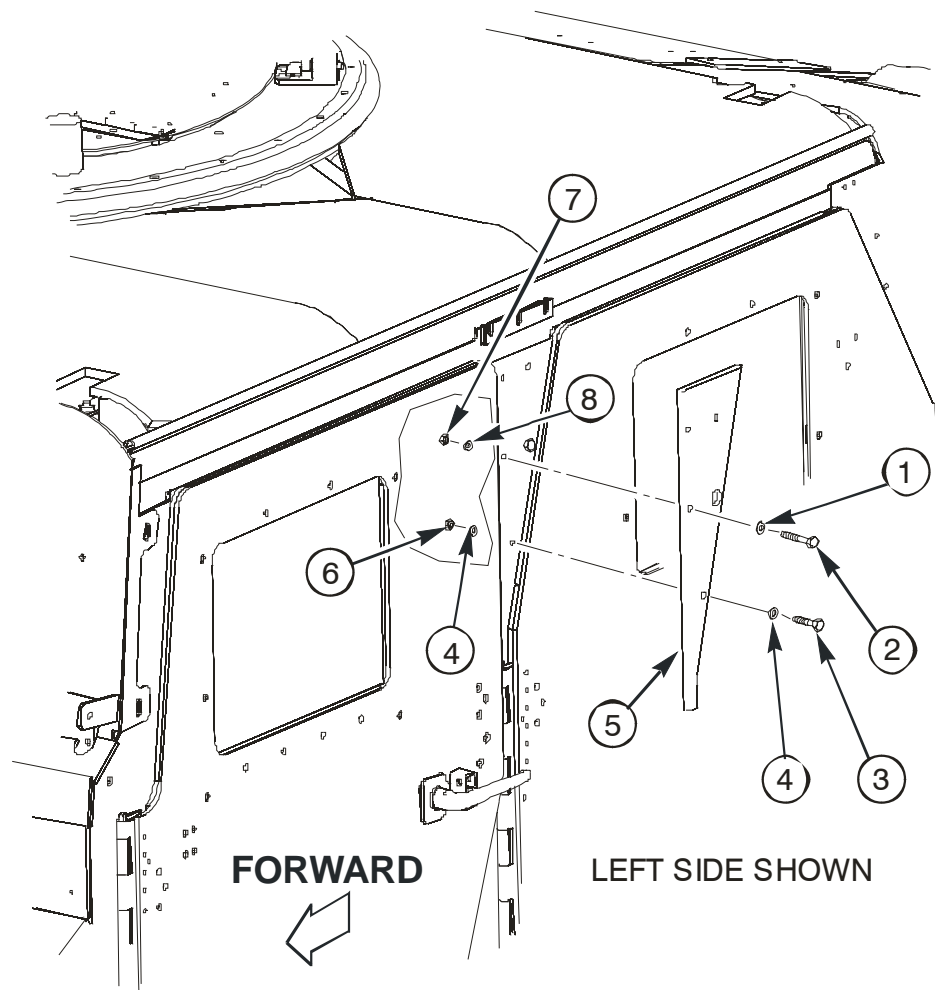

Figure 10.
15. Install 6432874 B-pillar overlay (5) to vehicle securing with one 4397000-041 capscrew (2), one 4397005-012 flat washer (1), one 4397005-075 flat washer (8), one 4397064-003 locking nut (7), one 4397000-040 capscrew (3), two 4397005-012 flat washers (4) and
one 4397064-003 locking nut (6) as shown in figure 10. Torque one capscrew (2) and one capscrew (3) to 21 lb-ft. (28 N·m).